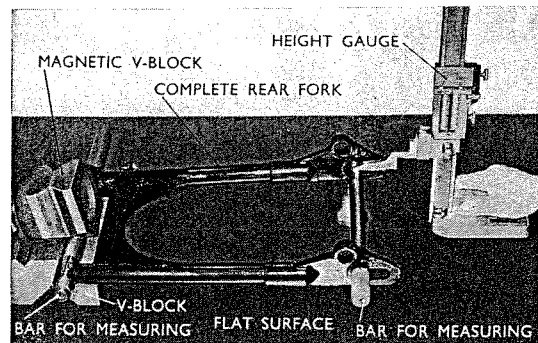

Fig. 4.63 Twist of rear fork
4. Measurement of twist of the rear fork. (Refer to Fig. 4.63)